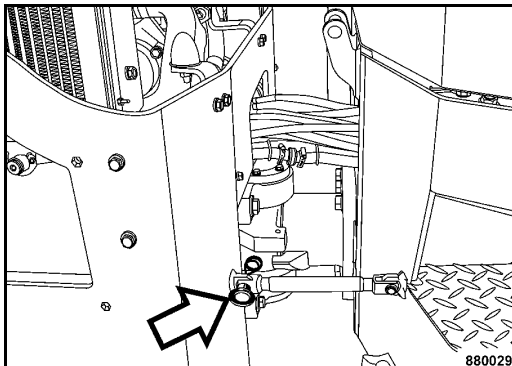

Fig. 110
- After driving the machine onto the transport vehicle swing the articulation lock (Fig. 110) out of its receptacle and fasten it with the bolt to the eye. Secure the bolt with the cotter pin.